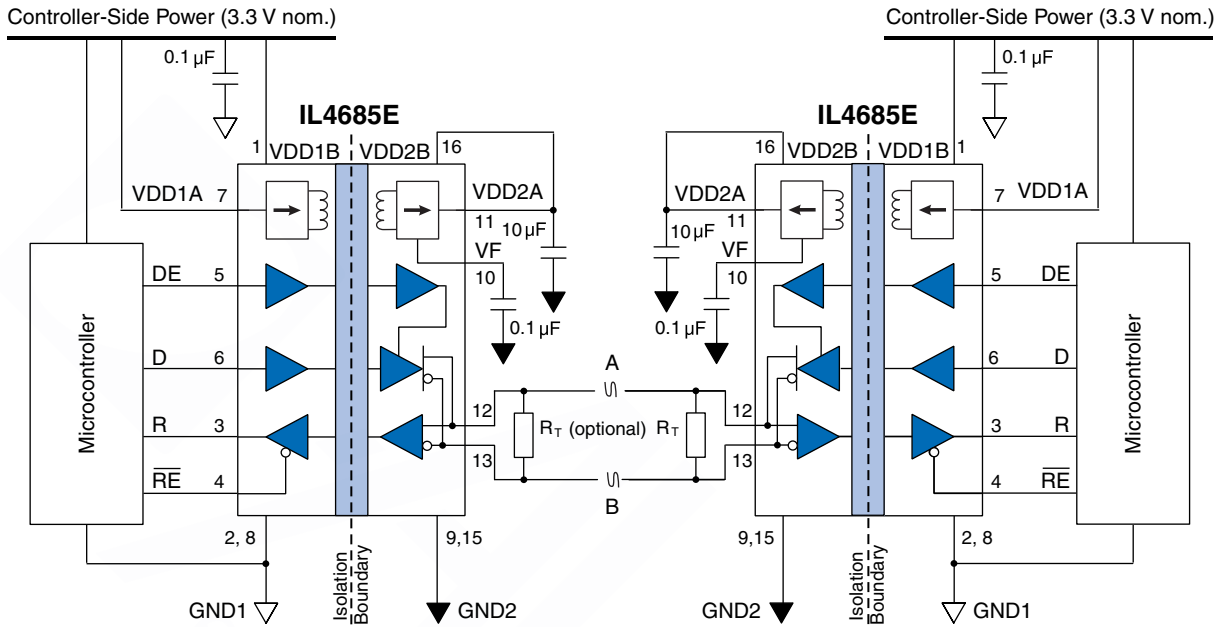

Figure 21. Two typical IL4685E nodes.
- Added RS-422 application diagram (Figure 21).